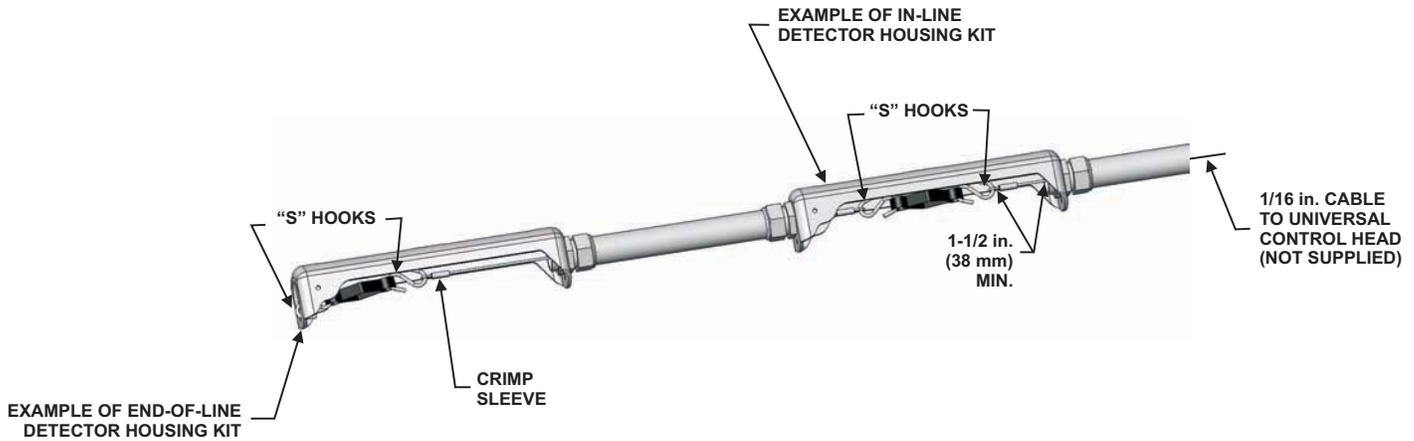

Figure 4-17. Detector Housing Kit, P/N 804548
6. Install detectors of proper rating as described in Paragraph 2-3.1.8. To install detectors, follow the steps below. Always start detector installation at the last detector (see Figures 4-17 and 4-18).